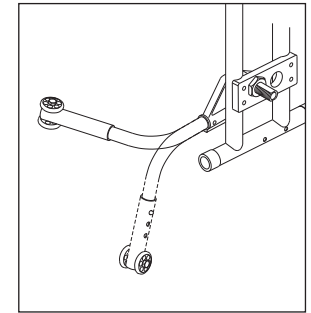

Figure 16
4. Turning Anti-Tip Tubes Up (Fig. 16)